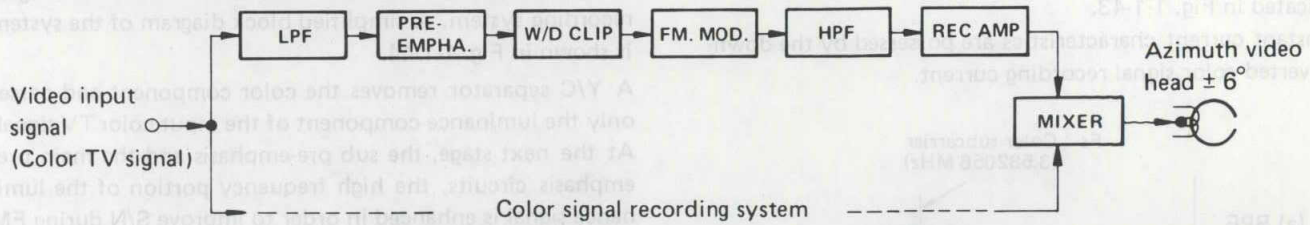

Fig. 1-1-40 Luminance signal recording system
Frequency modulation (FM) is used for the luminance signal recording system. A simplified block diagram of the system is shown in Fig. 1-1-40.